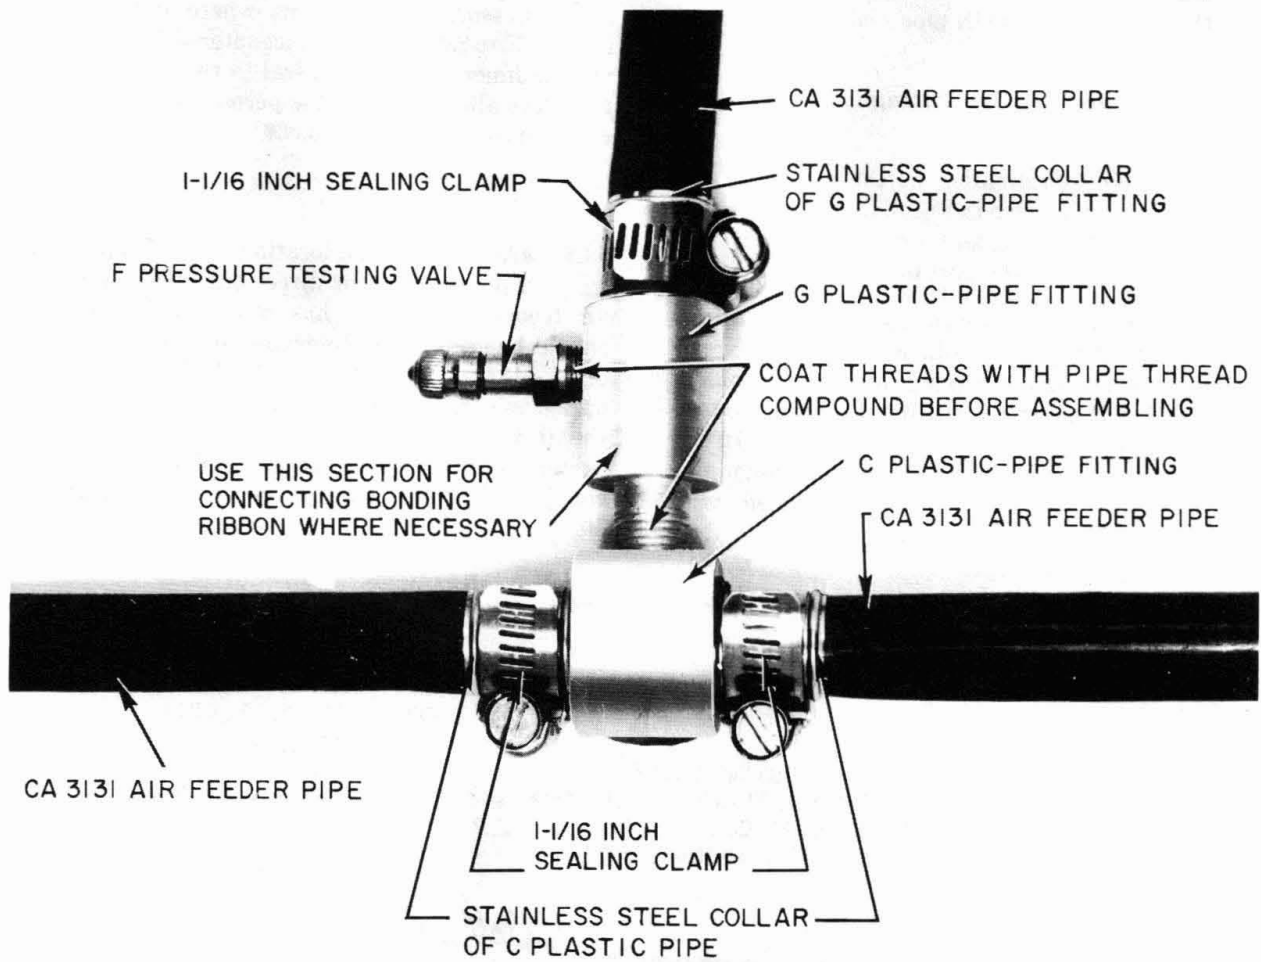

Fig. 7—Typical Arrangement for Pipe and Pressure Testing Valve Connections at Pipe Junction Manhole
(7) **The C plastic pipe fitting** is used for making a 3-way or tee connection in a pipeline (Fig. 7). The port on this fitting has a 1/4-inch pipe thread to permit connection to a G plastic pipe fitting.
- (a) To a C plastic pipe fitting for a 3-way or tee connection in a pipeline (Fig. 7). In such cases, also coat the threads of an F pressure testing valve and install it in the port of the fitting.